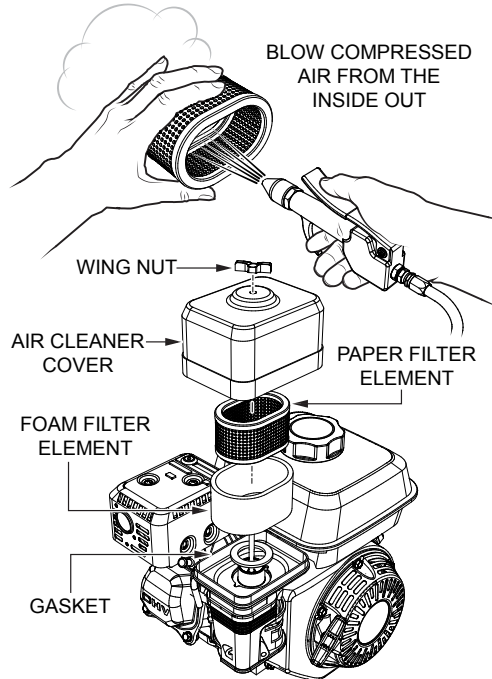

Figure 39. Engine Air Cleaner
1. Remove the air cleaner cover and foam filter element as shown in Figure 39.
2. To remove dirt, tap the paper filter element (Figure 39) several times on a hard surface, or blow compressed air not exceeding 30 psi (207 kPa, 2.1 kgf/cm²) through the filter element from the air cleaner case side. **NEVER** brush off dirt. Brushing will force dirt into the fibers. Replace the paper filter element if it is excessively dirty.